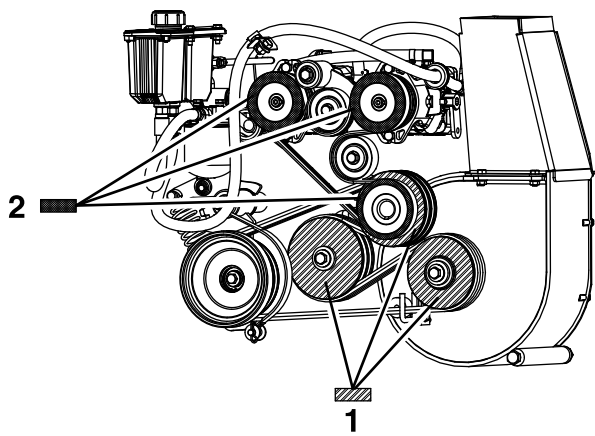

Figure 60
8. Measuring from the blower pulley as a baseline, move the engine and jackshaft until the rear surface of all 3 pulleys are aligned within 0.8 to 1.6 mm (1/32 inch to 1/16 inch) (Figure 60).
4. Using a straight edge, align each pump pulley with the engine pulley by sliding it along the pump shaft (Figure 60).